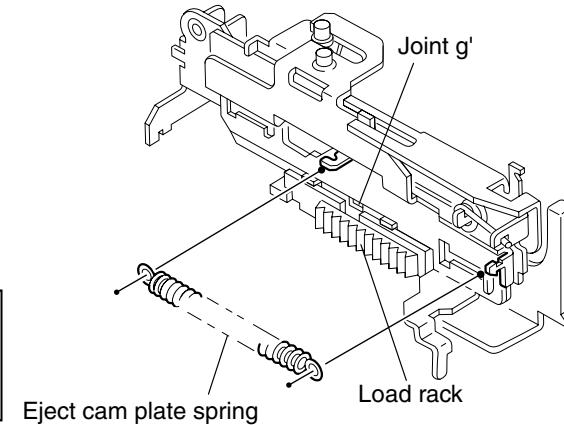

Fig.37
■Removing the side bracket assembly (See Fig.37 to 41)